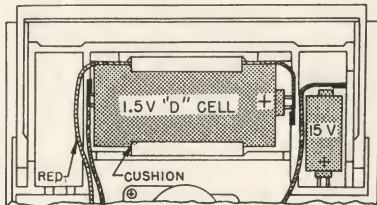

FIGURE 6
4. Wrap 1.5 V "D" cell with cushion provided and insert into large cavity with polarity as shown in figure 6.
5. Insert 15 V battery in right compartment with polarity as shown in figure 6.